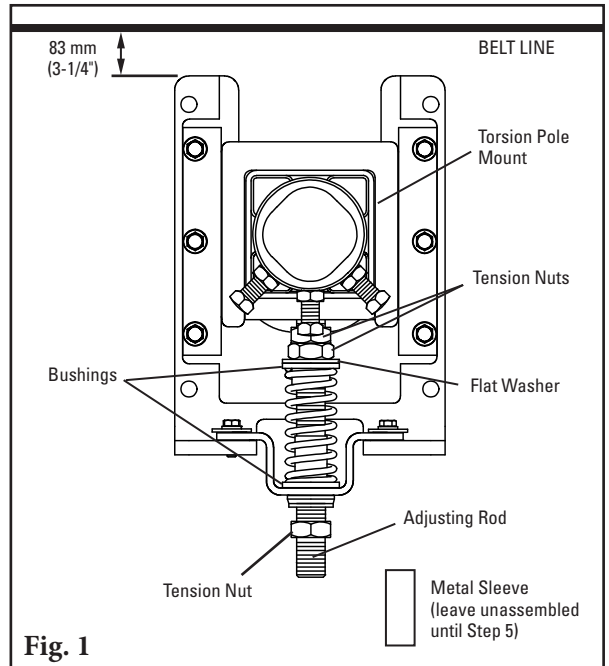

Fig. 1
- 1. Reconfigure the standard pull-up tensioner to the push-up style.** Remove the 3 tension nuts, flat washer, 2 bushings, spring, sleeve, and hat bracket; reassemble (Fig. 1) with 2 tension nuts, flat washer, 2 bushings, spring, and hat bracket on the upper end of the adjusting rod. Add the 3rd tension nut to bottom of the adjusting rod, this will act as a lock for the metal sleeve.
- 2. Install the tensioner mounting bases.** Mount the bases to the structure or chute so that the tops of the base legs are 83 mm (3-1/4") below the belt (Fig. 1).